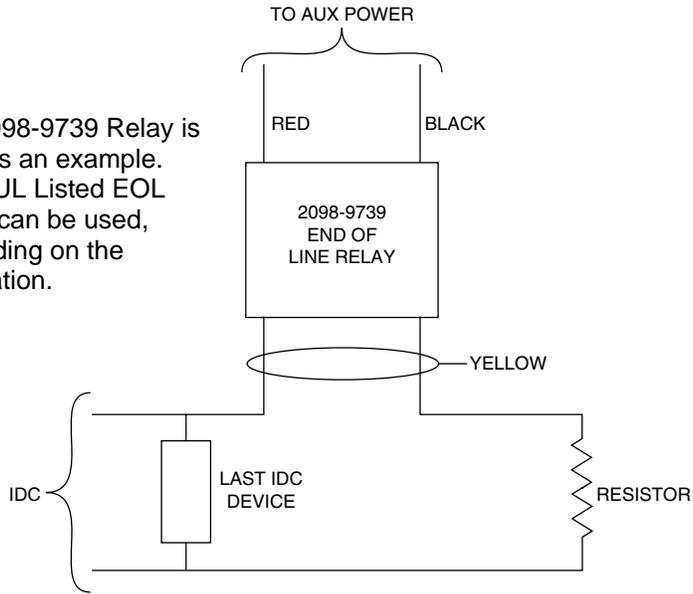

Figure 15. The EOL Relay
- *Auxiliary power only:* In order to connect a circuit using power-limited wiring, the devices being powered must all be addressable, or a UL Listed EOL relay must be used to supervise the circuit. Refer to Figure 15 for wiring directions for the EOL relay.